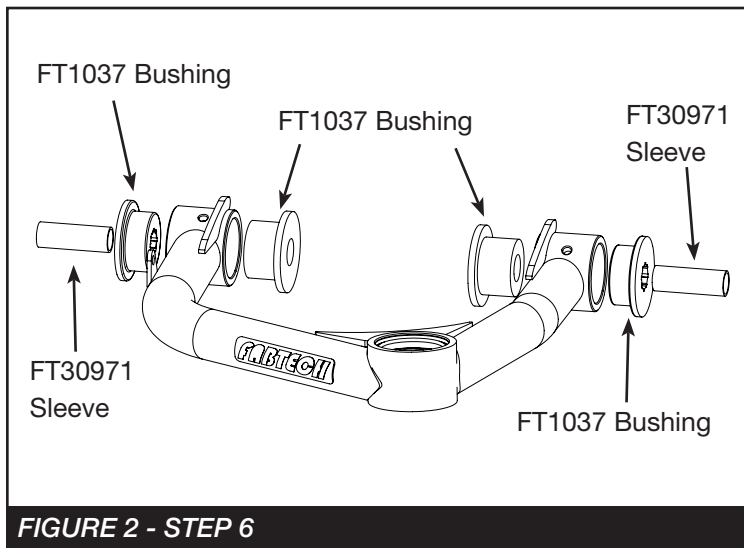

FIGURE 2 - STEP 6
6. Install four FT1037 (Bushings), two FT30971 (Sleeves) and two zerk fittings into each of the new upper control arms. **NOTE: The sleeves will be flush with the outside of the bushing. SEE FIGURE 2**